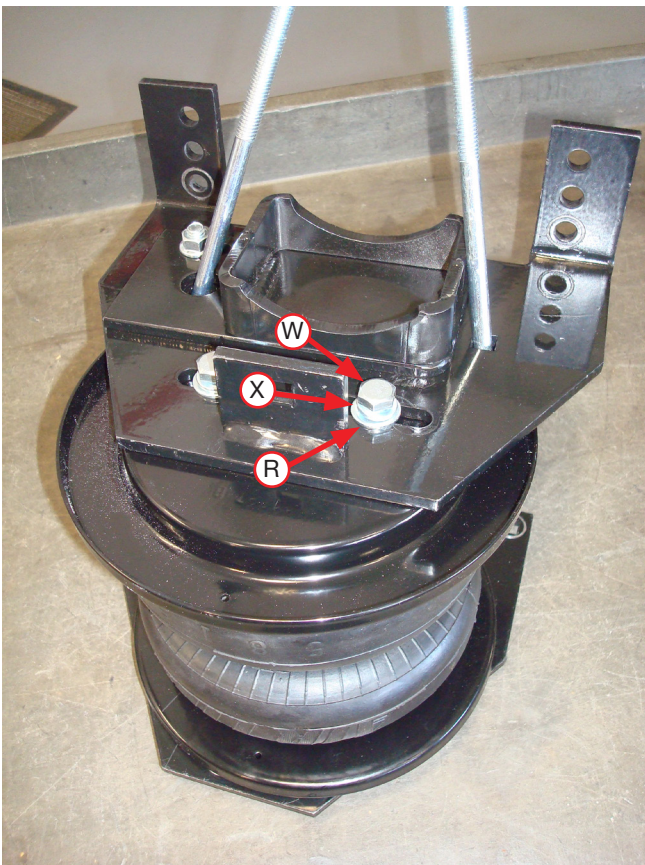
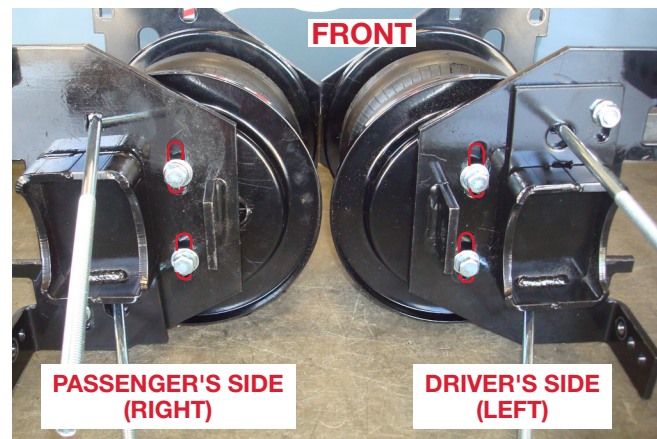

Fig. 13
Fig. 14
6. Set the lower bracket assemblies onto the air springs with a roll plate installed and attach with two 3/8"-24 x 7/8" hex bolts (W), 3/8" lock washers (X) and 3/8" flat washers (R) (Fig. 13). Push the lower bracket as far forward as possible. Refer to Fig. 14. Torque the hardware to no more than 20 lb.-ft. (27Nm).